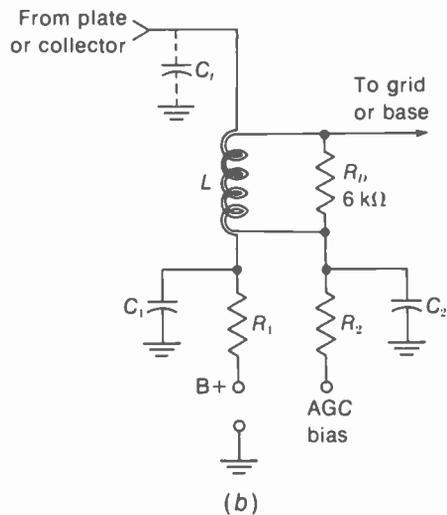

FIGURE 23-12 BIFILAR IF COIL. (a) PHOTO; HEIGHT ABOUT  $1\frac{1}{2}$  IN.; (b) SCHEMATIC SYMBOL.
**Bifilar IF coils.** This type of coil has two windings, like a transformer, but it is not double-tuned. As shown in Fig. 23-12, the bifilar coil is wound with twin conductor wires, each insulated from the other. One winding is for the plate or collector, tuned to the resonant frequency as a single-tuned circuit. The other winding is for the grid or base of the next stage. Since the IF signal is inductively coupled to the next stage, no coupling capacitor is needed. Furthermore, the response is the same as that of a single-tuned circuit. In short, the bifilar coil provides a method of having a single-tuned amplifier without using a coupling capacitor  $C_c$ .